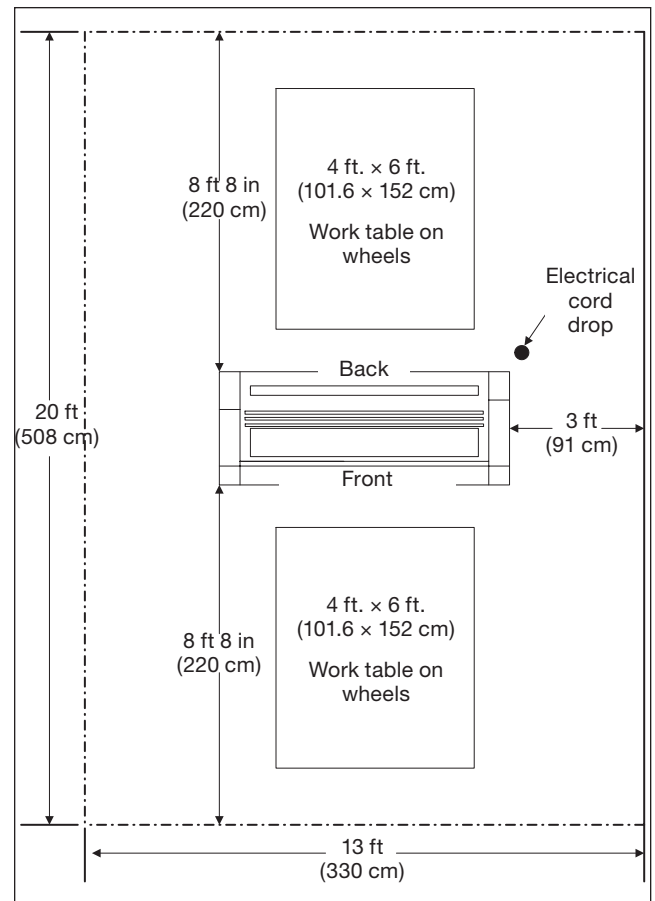

Fig. 4-1. Space Requirements.
- a. A work area must be established that allows for operation in both the front and rear of the laminator and provides space for efficient material flow. (Fig. 4-1)